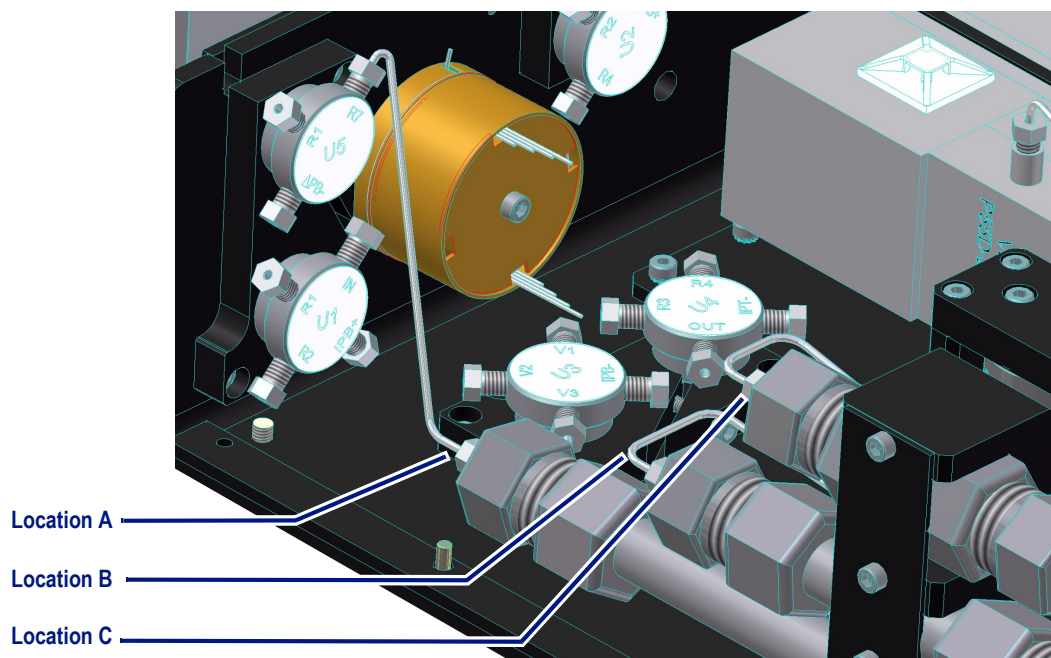

Figure 3-5: Plumbing Inside the ViscoStar
5. To connect to a different location, replace the tubing shown connected to Location A with the tubing provided in the ViscoStar kit. Connect the tubing to a location marked A, B, or C in Figure 3-5. When you disconnect the large column, plug the ends of the tubings that are disconnected with the female plugs also provided in the ViscoStar kit.